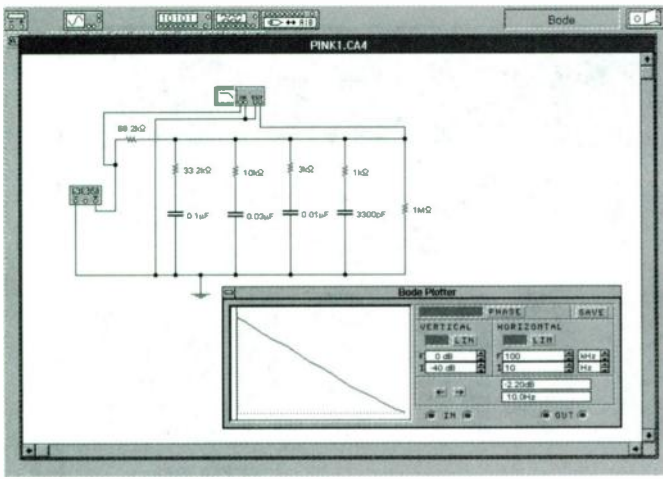

FIGURE 9: Electronics Workbench circuit simulation for the pink-noise filter of Fig. 8.
Step 2 is to consider the first ladder section, the leftmost shunt branch in Fig. 9. The slope should be well entered at 20Hz, indicating that the corner frequency for the first ladder must be lower than that. If I select 100k for the total resistance and 0.1μF for the capacitor, then the corner frequency would be 16Hz. No matter what else happens, the next ladder section will have a cor-